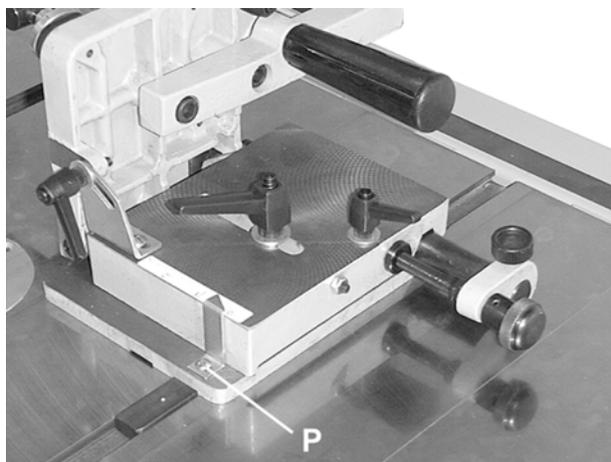

Figure 7
11. For a final adjustment, loosen screw (P) holding the pointer and adjust pointer to the 1/8" position. See Figure 7. Tighten screw.